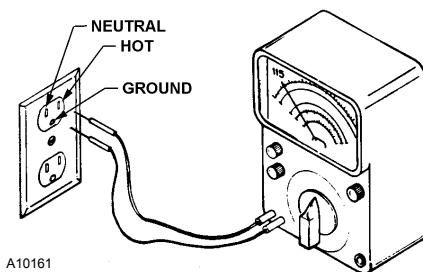

Figure 4. Electrical Check with Voltmeter
When the AC Voltmeter probes are connected to the **HOT** and **NEUTRAL** terminals, the voltmeter should indicate 110 to 130 volts AC. See Figure 4.
When the AC Voltmeter probes are connected to the **HOT** and **GROUND** terminals, the voltmeter should indicate 110 to 130 Volts AC. See Figure 4.
When the AC Voltmeter probes are connected to the **NEUTRAL** and **GROUND** terminals, the voltmeter should indicate 0 Volts AC. See Figure 4. Any voltage reading could cause noise problems in the electronic controller.
In a standard three (3) prong 115 Volt AC wall outlet the **GROUND** pin is round, the **NEUTRAL** pin is rectangular and located clock-wise from the ground pin and the **HOT** pin is rectangular and smaller than the neutral pin and located counterclockwise from the ground pin. See Figure 4.